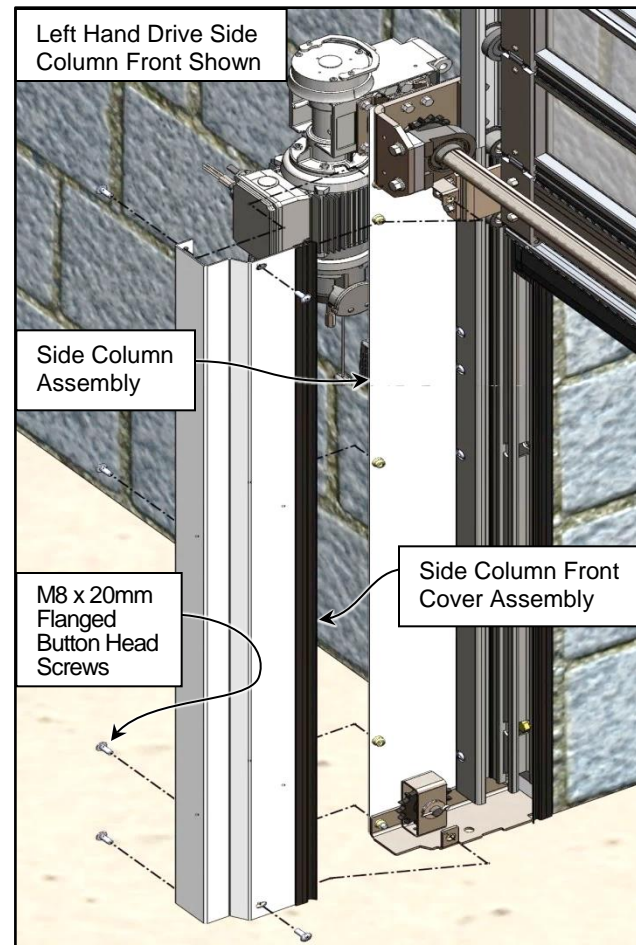

Figure 92
2. Attach the left and right hand side column covers. (See Figure 92)